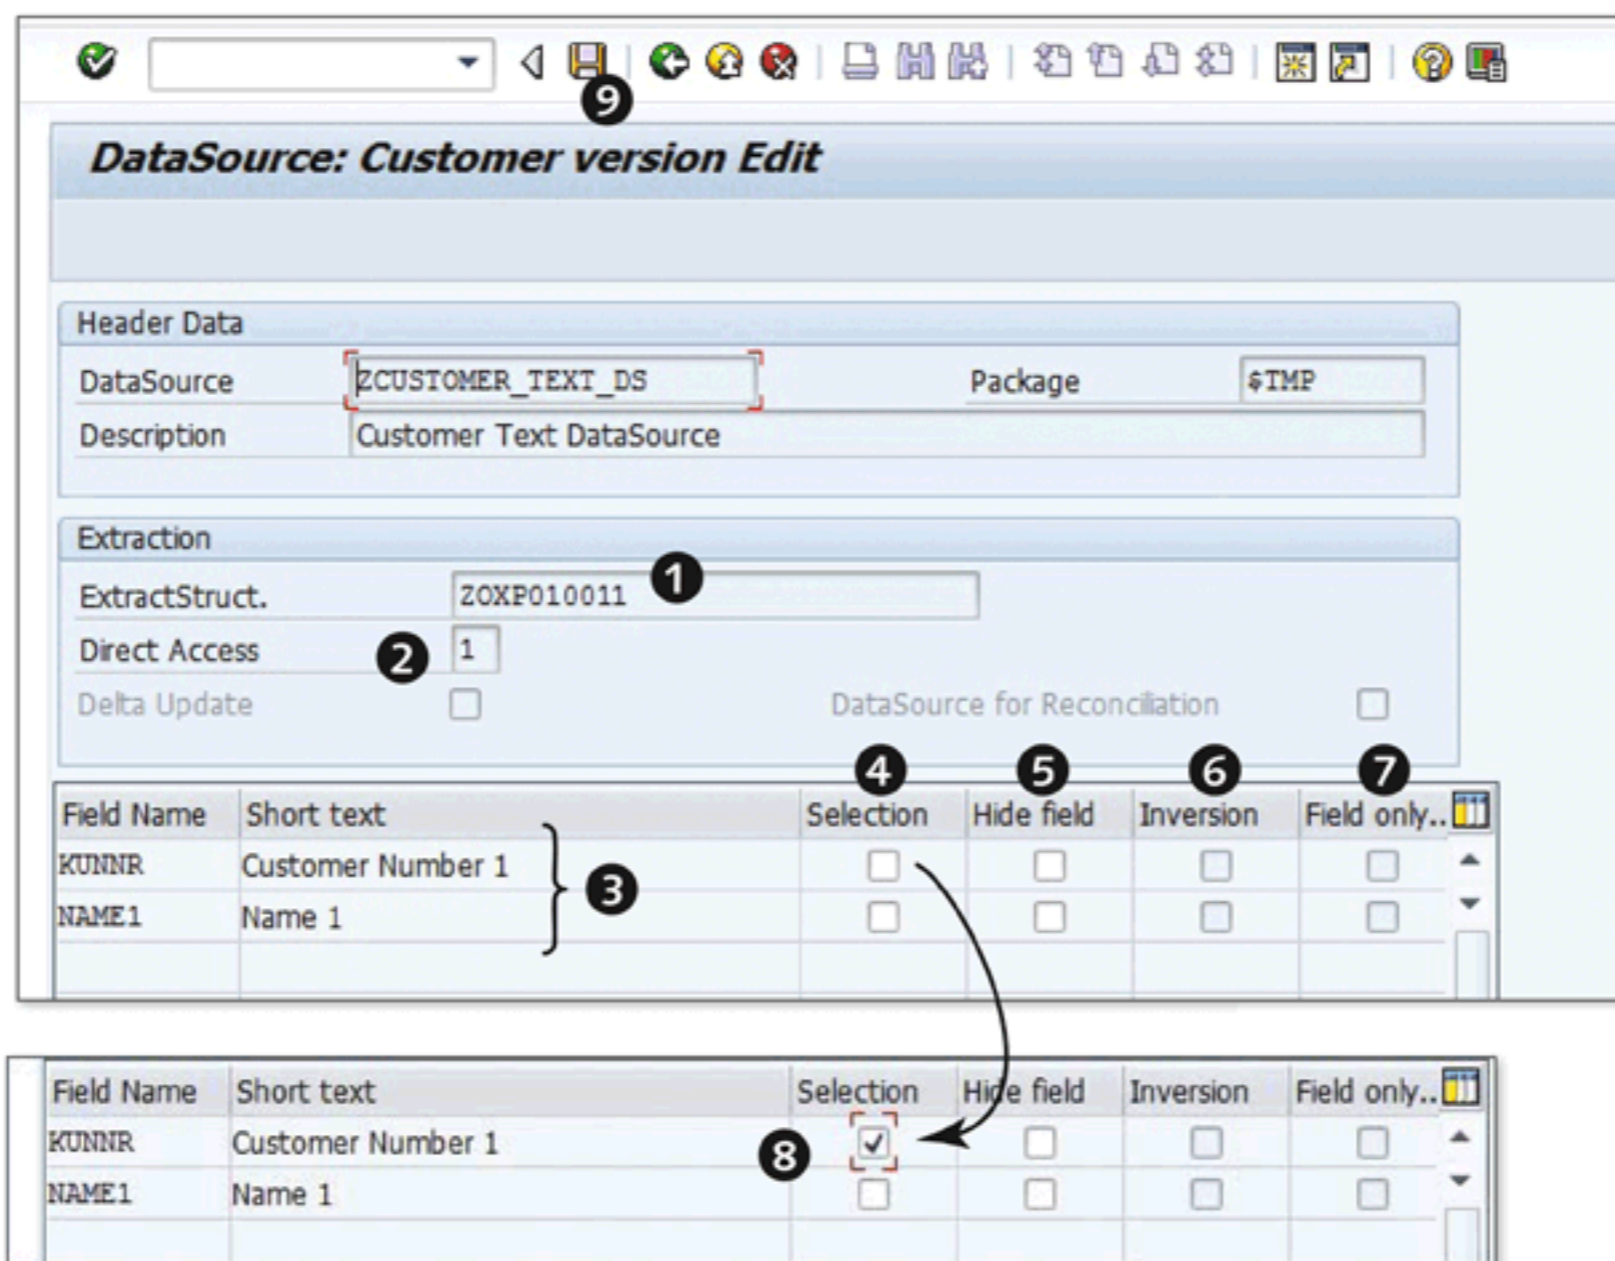

Figure 8.8 Configuring DataSource Fields
Enter the short, medium, and long text in the entry box (2). Enter the name of Table ZCUST_TEXT in the entry box (3). The extraction structure is created by the system by reading the definition of the table entered. Now click on SAVE. The resulting screen is shown in Figure 8.8.
The extraction structure of the DataSource is created and given a unique name by the SAP ERP system, as shown in 1 of Figure 8.8. The extraction structure contains fields included in the definition of the DataSource.
A DataSource with direct access can be used in configuring a VirtualProvider. By default, a generic DataSource is configured for direct access. Values 1 and 2 in this field allow direct access; value D in this field doesn't allow direct access. For our example scenario, no change is required (2 of Figure 8.8).
Fields included in the DataSource definition of Table ZCUST_TEXT are shown in 3 of Figure 8.8: KUNNR (CUSTOMER NUMBER 1) and NAME1 (NAME 1). Four different settings are available for each field; the significance of each is explained next.
Checking this checkbox allows you to enter selection values for this field in the InfoPackage created for this DataSource in SAP NetWeaver BW. For our example scenario, we flag this for the KUNNR field, as shown in 8 of Figure 8.8.
If you don't want to pass a specific field value to SAP NetWeaver BW, you can select this indicator (5 of Figure 8.8).